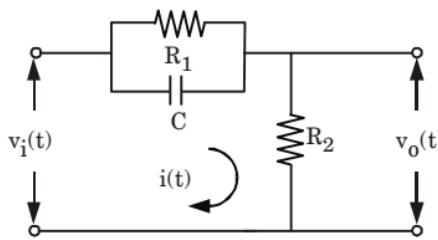

Fig. 1.
Q. 5. Find the transfer function of the electrical network shown in Fig. 1.